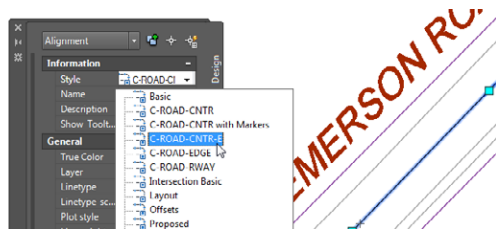

FIGURE 6.2 Assigning an alignment style in the Properties window
3. Change the style to `C-ROAD-CNTR-E`, as shown in Figure 6.2.